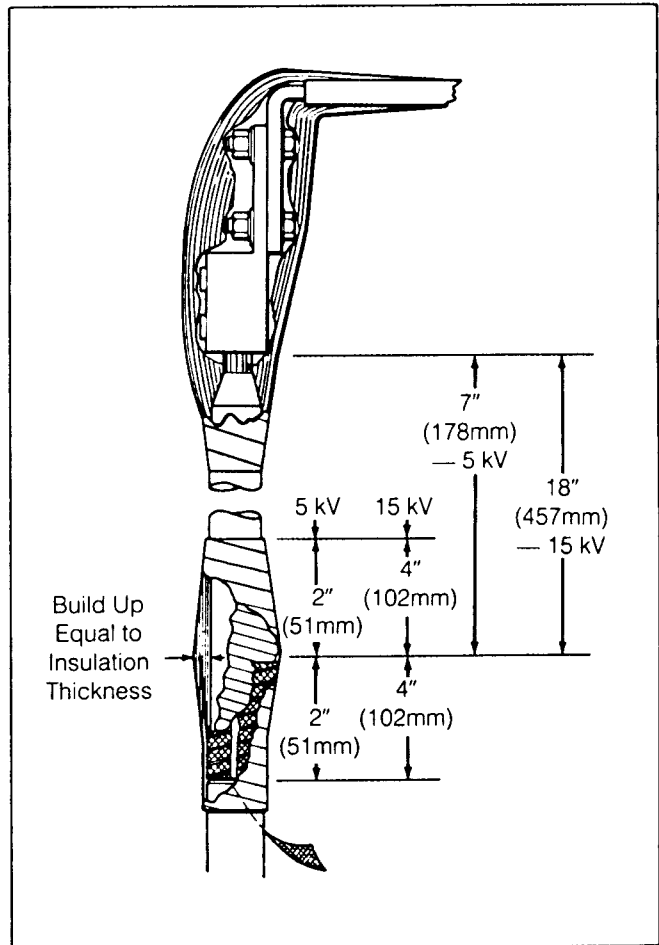

Figure 54. Primary Cable Connections
6. Install connector caps or insulation boot as required. On 15 kV switchgear caulk all bus supports as shown in Figure 54.
All cable connections to metal-clad switchgear must be fully insulated. Typical cable connections are shown in Figure 54. Because of considerable variations in customer requirements and available cables, Siemens furnishes a double-bolt, double-clamp, terminal lug only. All insulating and terminating materials other than terminal lugs and cable supports are to be furnished by the customer.